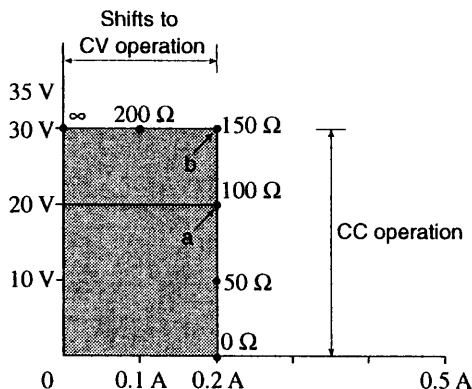

Fig. 2-6 Constant-current (CC) operation
For example, apply 0.2 A to a 100  $\Omega$  load using the PMR35-1.2DU to perform constant-current (CC) operation, as illustrated in Fig. 2-6.